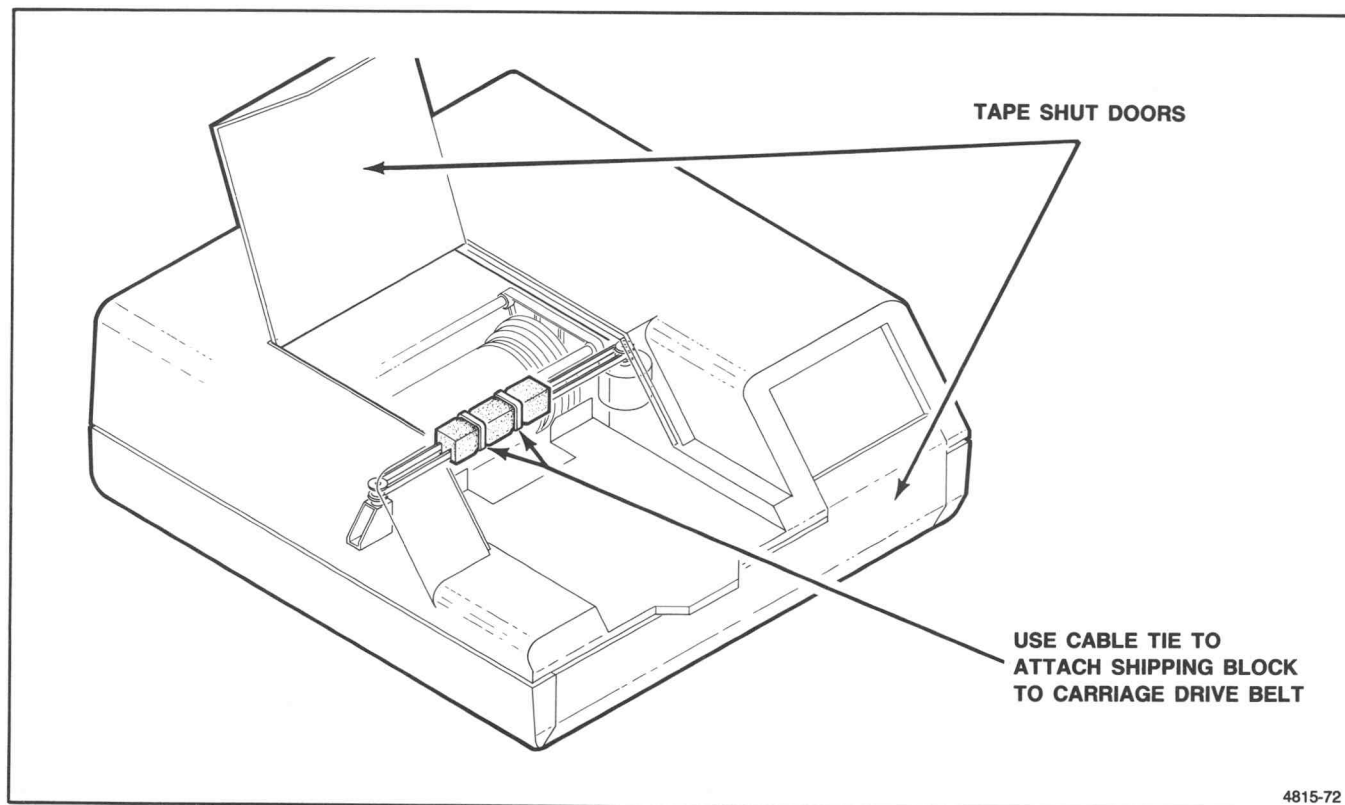

Figure C-1. Preparing the Copier for a Long Move.
4. To prevent movement of the head carriage assembly, secure the carriage drive belt clamp (004-2589-00) with cable ties to the carriage drive belt as shown in Figure C-1.
5. Wrap the head carriage with a sheet of absorbent towel to absorb any fluid from the head maintenance station — see Figure C-1.